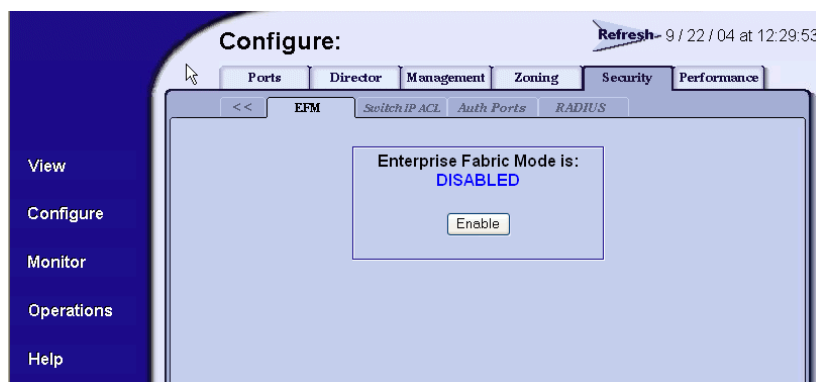

Figure 2-79 Configure Panel (Security Page with EFM Tab)
1. At the *Configure* panel, click the *EFM* tab. The *Security* page displays with the *EFM* tab selected (Figure 2-79).